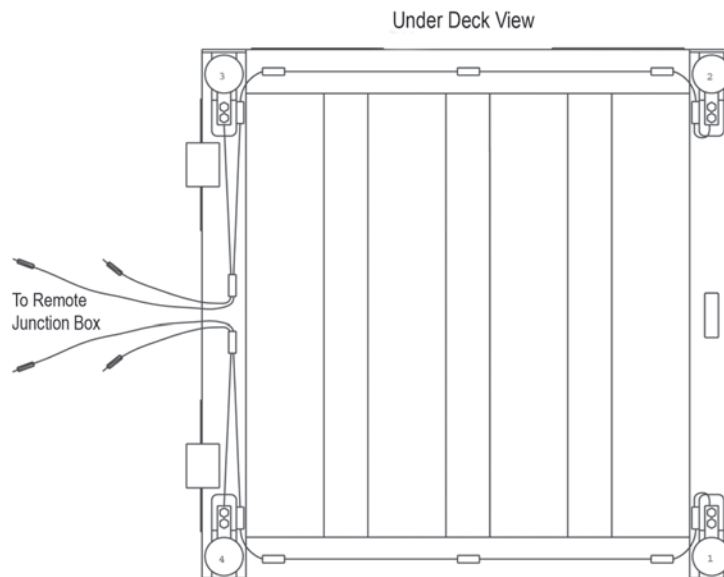
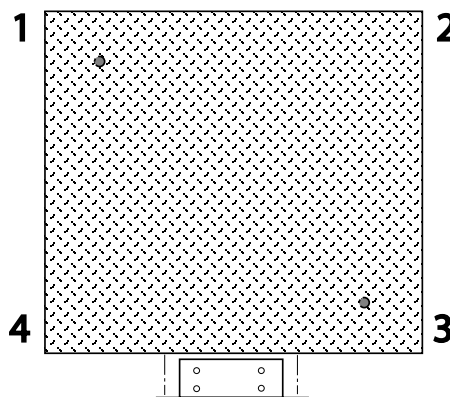

Figure 4-2. Bottom View of Scale
Figure 4-4. Corner Numbering - Top View
1. Remove the junction box cover and identify correct load cell terminal corresponding to each corner (labeled CELL 1, CELL 2, and so on). See Figure 4-4 on page 9 for scale deck corner numbering.
4. Thread the cable from each load cell through the conduit tubing in the frame and into the remote junction box according to the wiring diagram in Figure 4-2.
Note In Figure 4-2 both the scale and the junction box are viewed from the bottom. To verify correct load cell/junction box terminal matching, see the numbers on the terminals inside the junction box and the corner numbering diagram in Figure 4-4 on page 9.
The four load cells are each wired to their respective terminals in the junction box according to the corner numbering system shown in Figure 4-4, and the coloring code in Table 4-2.